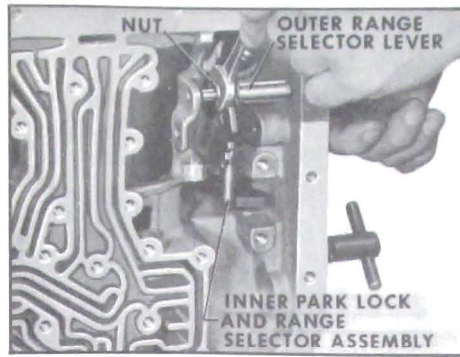

Figure 5-282
8. Slide outer range selector lever into case and tighten nut using a 9/16" wrench. See Figure 5-282.